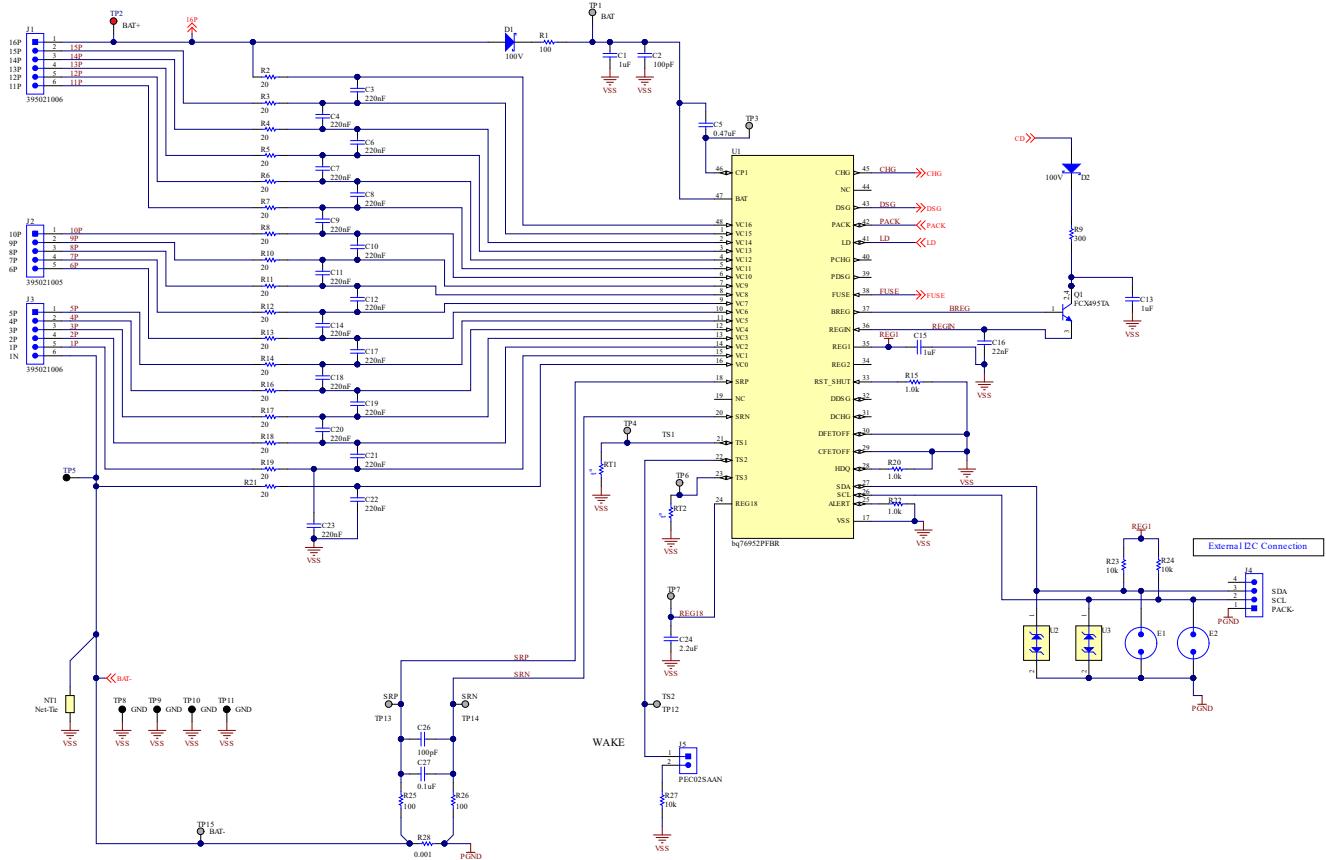

Figure 8-2. BQ76952 16-Series Cell Schematic Diagram—Monitor
- Power Dissipation, which can be a factor of the RDS(ON) rating of the FET, the FET package, and the PCB design.
- The overdrive level of the BQ76972-Q1 device charge pump must be selected based on RDS(ON) requirements for the protection FETs and the voltage handling requirements. If the FETs are selected with a maximum gate-to-source voltage of 15V, then the 11V overdrive mode within the BQ76972-Q1 device can be used. If the FETs are not specified to withstand this level, or there is a concern over gate leakage current on the FETs, the lower overdrive level of 5.5V can be selected.
- A diode can optionally be included in the collector circuit of the BJT, avoid reverse current flow from BREG through the base-collector junction of the BJT to PACK+ during a pack short circuit event. This diode can be seen in Figure 8-2 at D2.